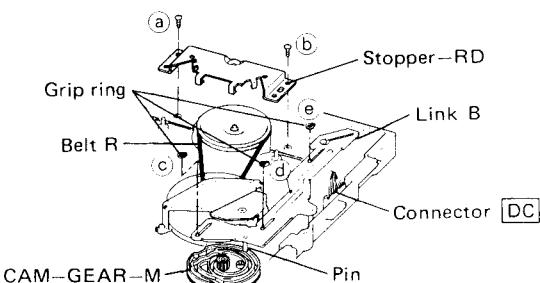

Fig. 3-7
- 1) On the underside of the transport deck, remove the two stopper-RD retaining screws (**(a)** and **(b)**) as shown in Fig. 3-7.
- 3) Remove the three Grip rings (**(c)**, **(d)** and **(e)**) retaining the link-B and remove the link-B as shown in Fig. 3-7.
- 4) Disconnect connector **[DC]** as shown in Fig. 3-7.
- 2) Reconnect connector **[DC]** as shown in Fig. 3-7.